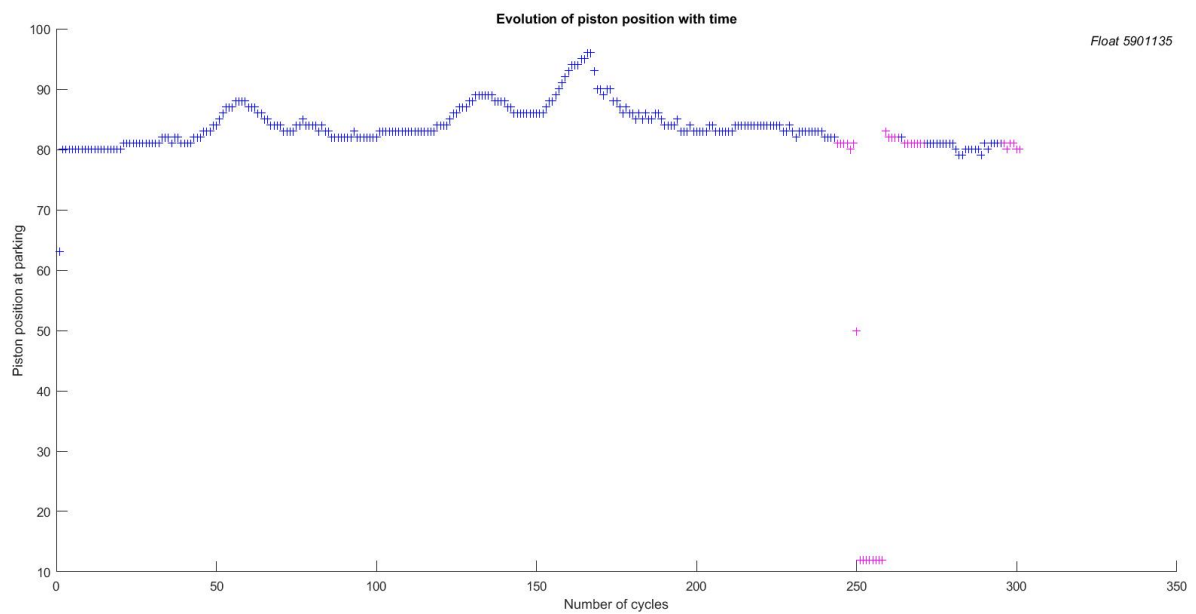

Figure 14: **Constant weight:** typical evolution of piston position after a grounding event.
- **Normalcy:** as shown on figure 14, after a grounding event (that happens after around 250 cycles), the piston restore to its original position. The weight has not changed, and the float still works properly.